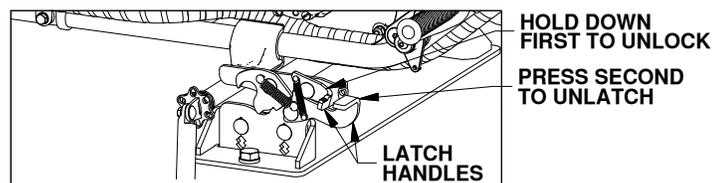

Figure D2: View looking down at Biker Bar.
- Removing bike from base:** Push down on the latch handles on both side of the base, see Figure D2. While mounted on bike, slowly back bike out of the base.